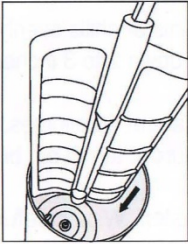

Figure 1
3. Insert the Blending Spatula and make sure the bottom of the spatula is fixed in the center of the bottom of the canister. (Figure 1)